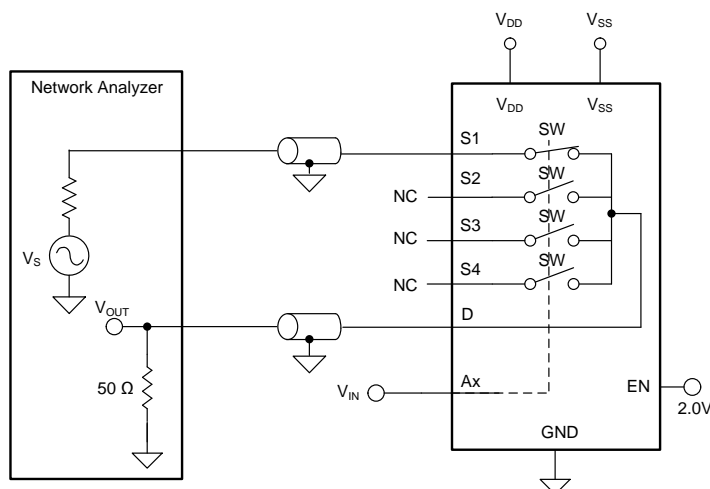

Figure 10. Bandwidth Measurement Setup
Bandwidth is defined as the range of frequencies that are attenuated by $< 3 \text{ dB}$ when the input is applied to the source pin (Sx) of an on-channel, and the output is measured at the drain pin (D) of the TMUX6104. Figure 10 shows the setup used to measure bandwidth of the mux. Use Equation 4 to compute the attenuation.